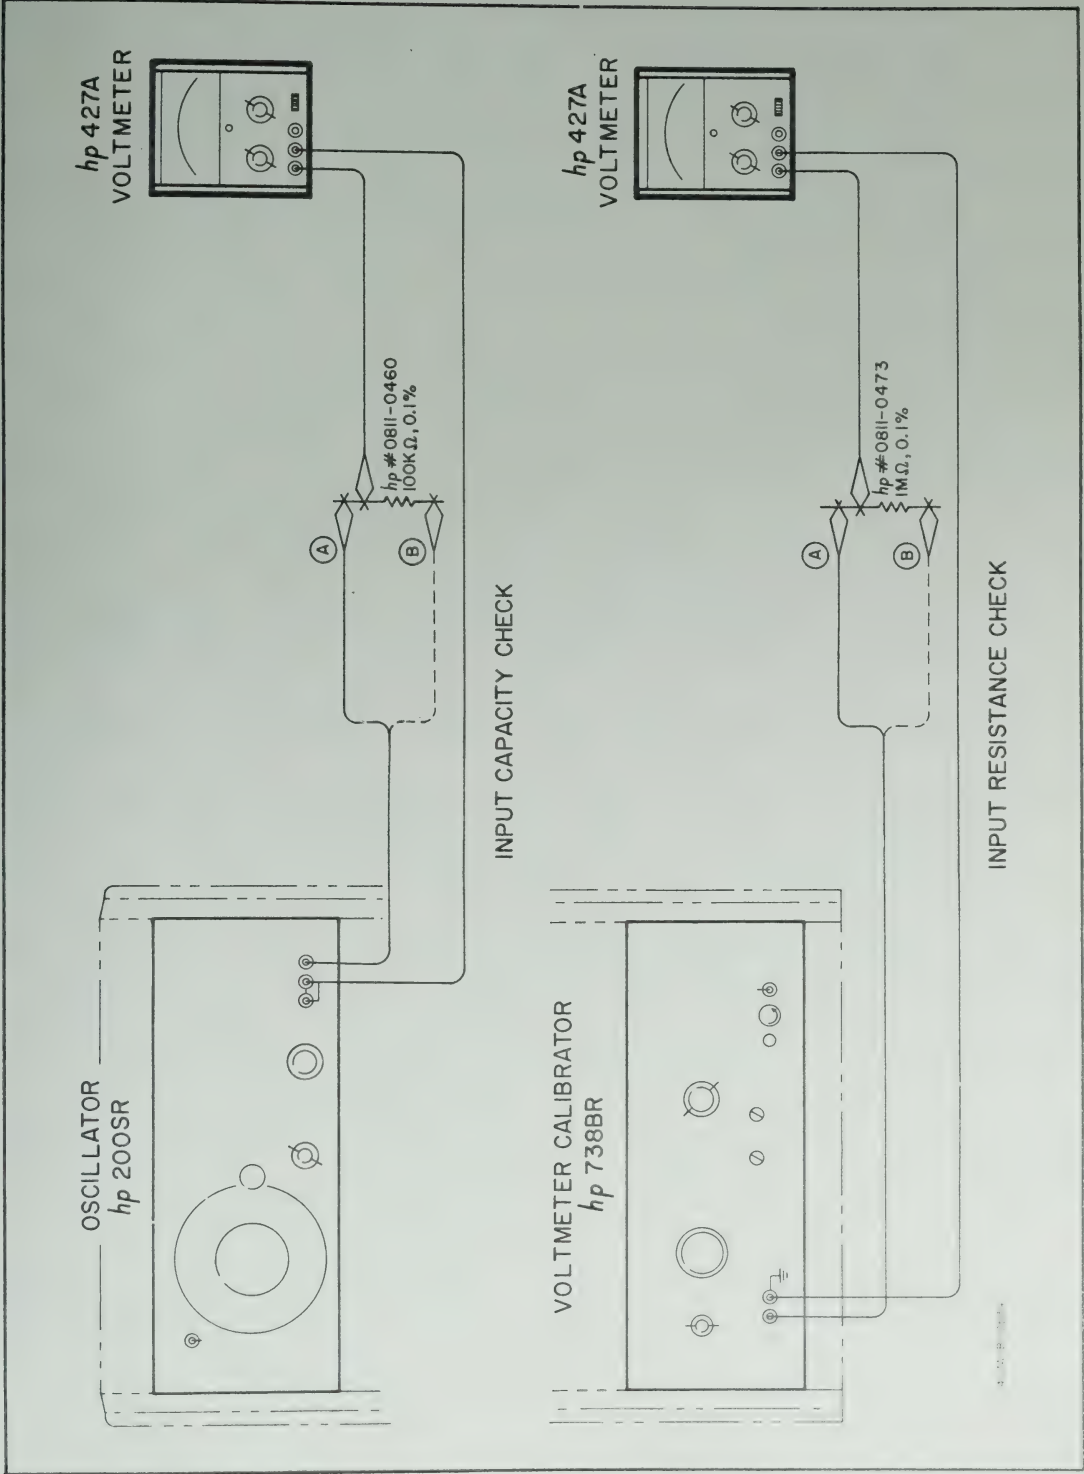

Figure 5-5. Input Impedance Check
5-22. Figure 5-5 shows the setup for the input resistance check. A 1 M  $\Omega$  resistor is connected in series with the input, and the voltage drop across the input resistance will be:
- a. Connect the Model 427A and the voltmeter calibrator as shown in A of the Input Resistance Check (Figure 5-5). Set the Model 427A FUNCTION to +DCV and RANGE to 1 V.
- a. Connect an oscillator and the Model 427A as shown in A of the input capacity check (Figure 5-5), and set the Model 427A FUNCTION to ACV and RANGE to 1 V.